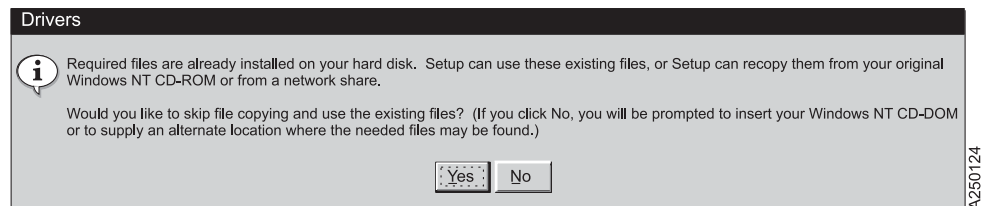

Figure 20. Windows NT Statement
9. If you installed the **Device Driver System Files** component in step 4 on page 227, Windows NT might ask the question shown in Figure 20. Click **Yes**, then skip to step 11. If the system prompts you for *ibmtape.sys*, browse to select the drivers directory (*c:\winnt\system32\drivers*). The system might also prompt you for *ntutil.exe*. Browse to the system32 directory (*c:\winnt\system32*).
10. If you **did not** install the **Device Driver System Files** component in step 4 on page 227, click **No** to the question in Figure 20. The operating system will prompt you for the location of the driver files.